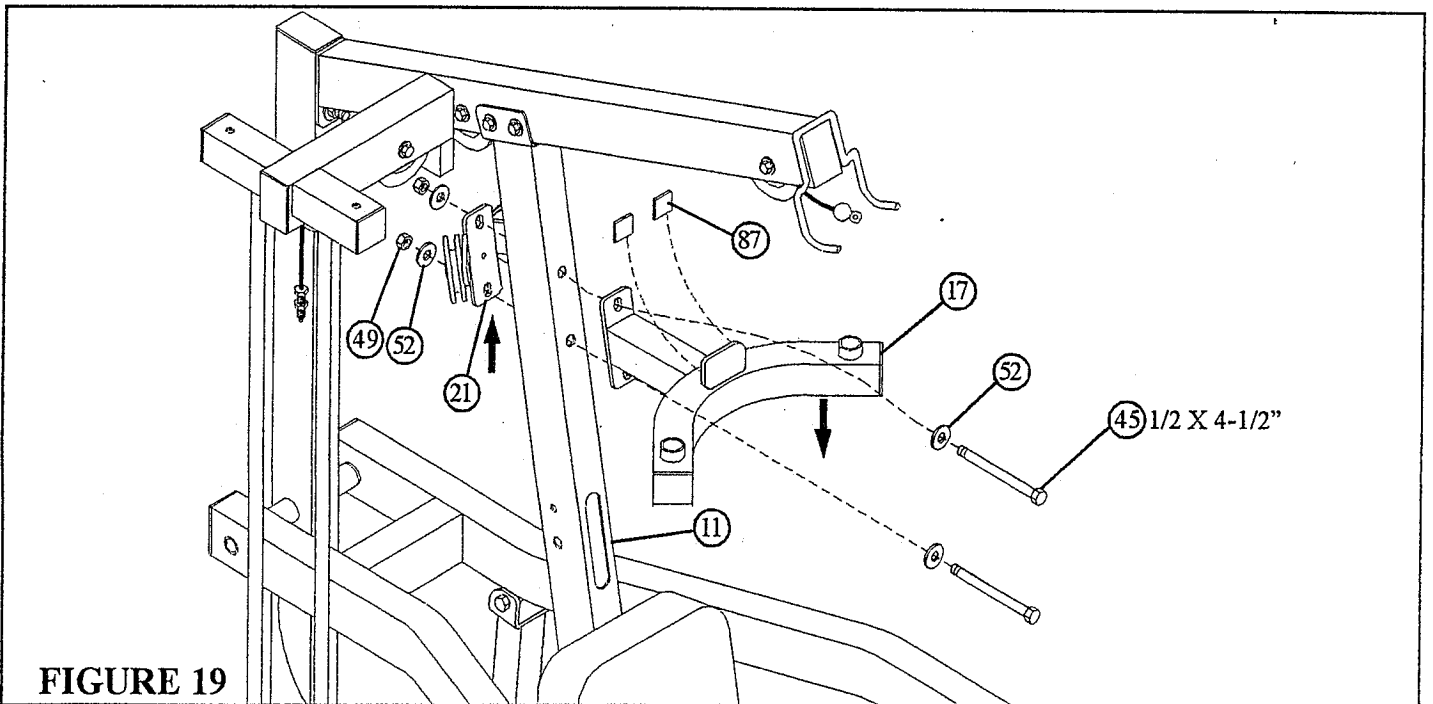

**FIGURE 18**
- Loosely assemble two 3-1/2" PULLEYS (79) and two 2-3/8" CABLE RETAINING CLIPS (58) to the CENTER PULLEY BRACKET (21) using two 3/8 X 2" BOLTS (37), four 3/8" WASHERS (51), and two 3/8" LOCKNUTS (48). See FIGURE 18. (NOTE: This connection will be tightened after the cable has been routed.)